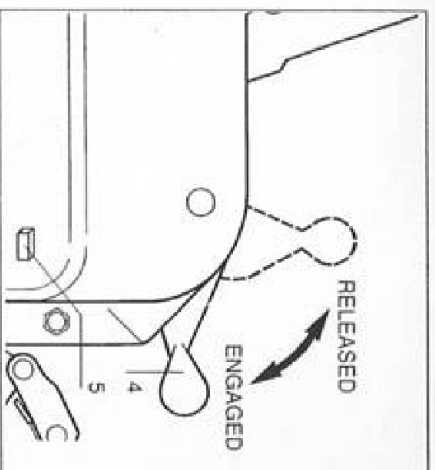

Fig. 7 - TU-8 and TU-16. Rope release lever.
There are two positions for the rope release lever (See Fig. 7, 8 and 9): released or engaged.
4.1. TU-8 or TU-16 (Fig. 7)